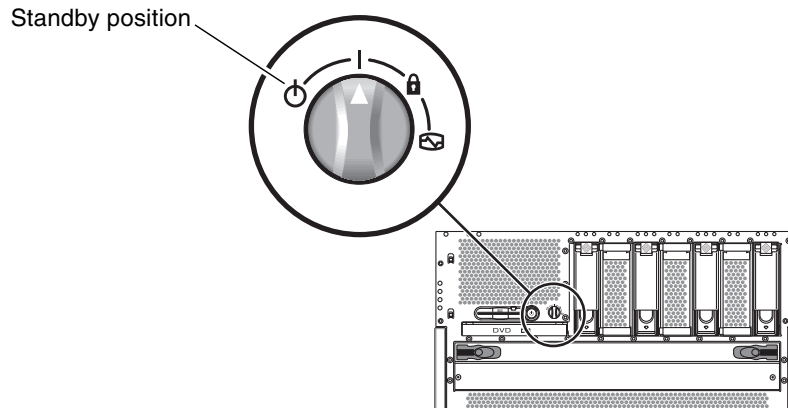

FIGURE 4-24 Turning the Rotary Switch to the Standby Position
2. Turn the rotary switch to the Standby position (FIGURE 4-24).